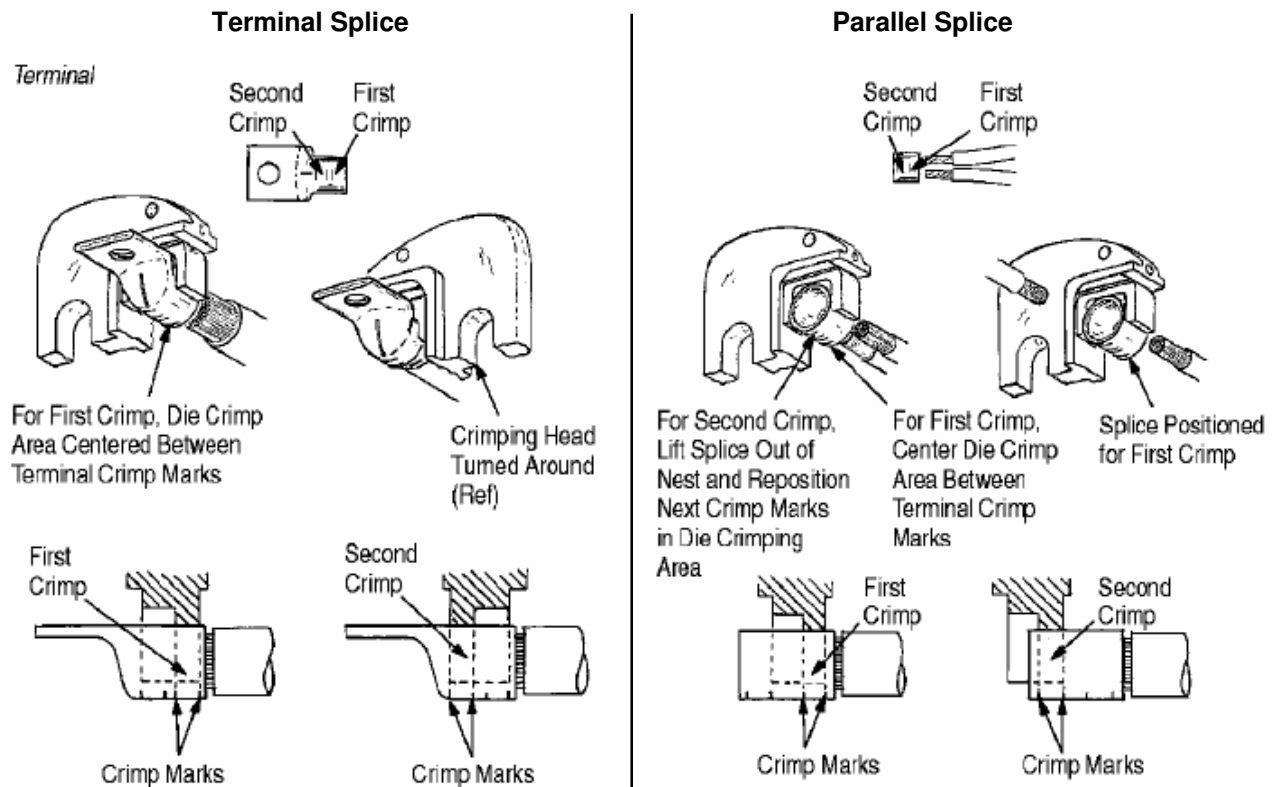

Figure 5
1. Place the terminal or splice in the stationary die as shown in Figure 5.
6. Before making the 2nd crimp, it will be necessary to turn either the terminal (or splice), the crimping head, or the dies around. Then, position the terminal or splice in the dies as shown in Figure 5 and repeat Steps 2 and 3.